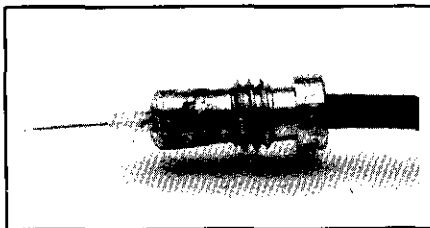

Fig 7—This reducer/cable assembly is ready to be turned into the connector body. Note the soldered copper foil cap at the narrow end of the reducer.
Fig 7—Using the horizontal (X-axis) and vertical (Y-axis) inputs of a single-trace oscilloscope as a dual-channel logic probe. Connect the X and Y inputs as shown at A. B shows the display when the inverter input is high, and C shows the display when the inverter input is low. Scope sensitivity is 5 V/div in these examples.
Fig 7 shows how you can simultaneously use the X and Y inputs of a single-trace scope to monitor the input and output of a TTL inverter. First, shut off the scope's sweep. (Reduce the display intensity so that the resultant stationary dot does not damage the CRT's phosphor coating.) Connect the scope's X input to the inverter input, and the Y input to the inverter output as shown in A. Set the X and Y amplifiers for equal sensitivity. Insets B and C of Fig 7 show the scope display for a functional inverter with input high (B) and low (C). If the input to the inverter is clocked, the displayed spot shifts rapidly between these two positions, resulting in a diagonal line. Need a trigger or third channel? Use your scope's beam intensity modulation (Z-axis) input. An inexpensive, single-trace oscilloscope can be surprisingly useful in digital troubleshooting when it is applied with imagination. —*B. N. Ensanian, K13U, Williamsport, Pennsylvania*
Strip ½ inch of dielectric from the cable center conductor. (Fig 7 shows the assembly at this point.) Grasping the thick end of the reducer, and keeping the soldered cap firmly against the end of the cable jacket, screw the connector body onto the cable (clockwise), making certain that the cable center conductor moves into the connector pin. As with the RG-8 installation procedure, don't twist the cable or the reducer—hold them steady while you screw on the connector body. When the soldered cap just clears the conductor holes, solder the cap to the connector body using the technique described for RG-8 cable.